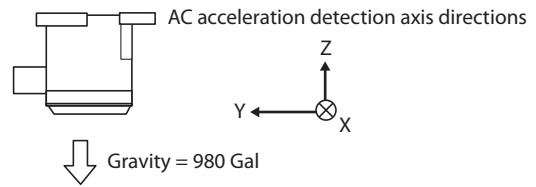

Figure 3B: Z-axis FSG measurement ( $\alpha Z_{+1960}$ )
(2) Position this unit as shown in figure 3B.